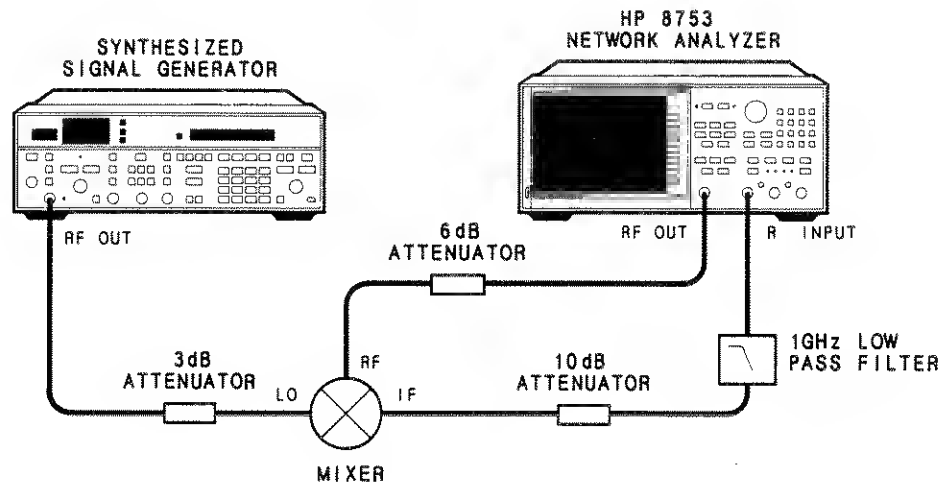

Figure 14-5. Typical Test Setup for a Frequency Offset Measurement
Figure 14-5 shows a typical test setup using frequency offset mode. Instructions are provided in *Using Frequency Offset Mode*. The attenuators shown reduce mismatch uncertainties. The low pass filter keeps unwanted mixing products out of the HP 8753B sampler.
1. Press **[PRESET]** on the front panels of the HP 8753B and local oscillator (LO) source.
2. Press **[FREQ OFFS on OFF]** to activate the frequency offset mode. Connect the equipment as shown in Figure 14-5.